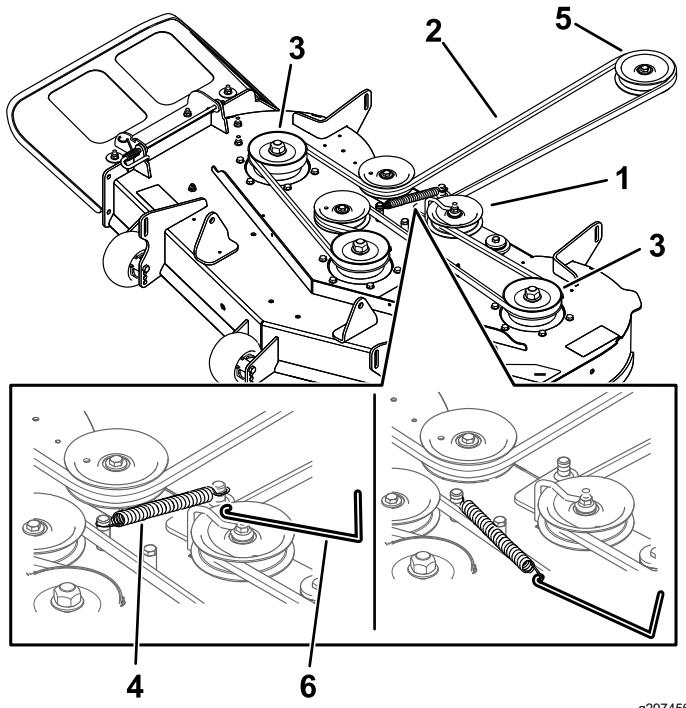

Figure 62
7. Using a spring-removal tool (Toro Part No. 92-5771), remove the idler spring from the deck hook to remove tension on the idler pulley and roll the belt off the pulleys (Figure 62).
8. Route the new belt around the engine pulley and mower pulleys (Figure 62).
9. Using a spring-removal tool (Toro Part No. 92-5771), install the idler spring over the deck hook and place tension on the idler pulley and the mower belt (Figure 62).